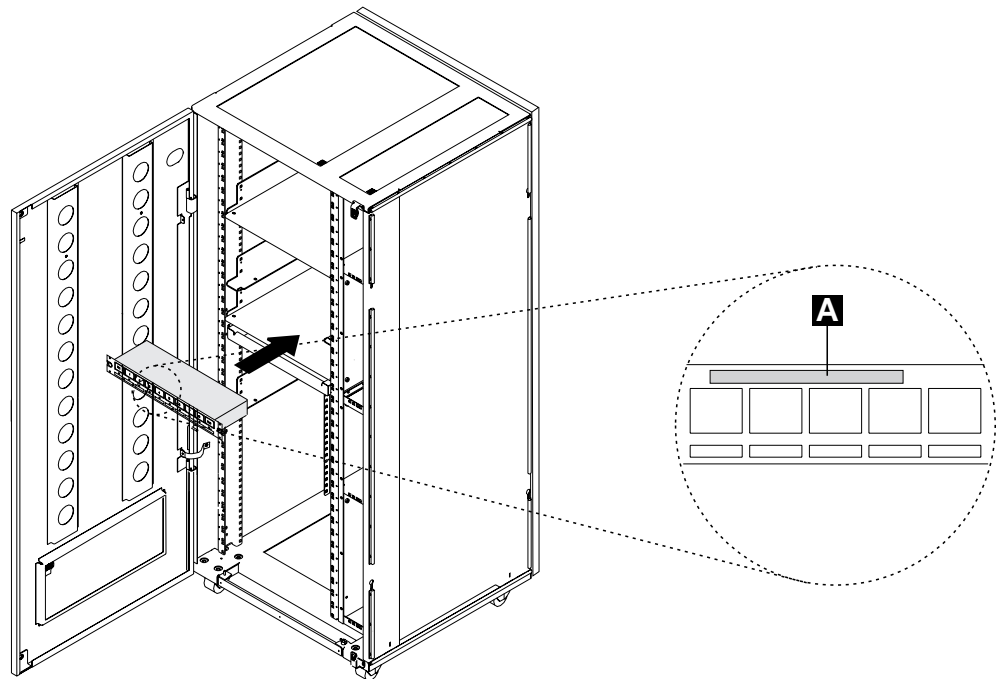

Figure 1-20. Installing the 8228 (Controller Expansion Rear side)
6. ____ Install the 8228 in a safe place near the service processor. If you received a controller expansion, the 8228 is installed on the rear side of the controller expansion using two screws (PN 1621232) and two captive nuts (PN 58G5766) see Figure 1-20. Using label **A** (PN 0782966), identify the 8228 as Service Processor Access Unit.